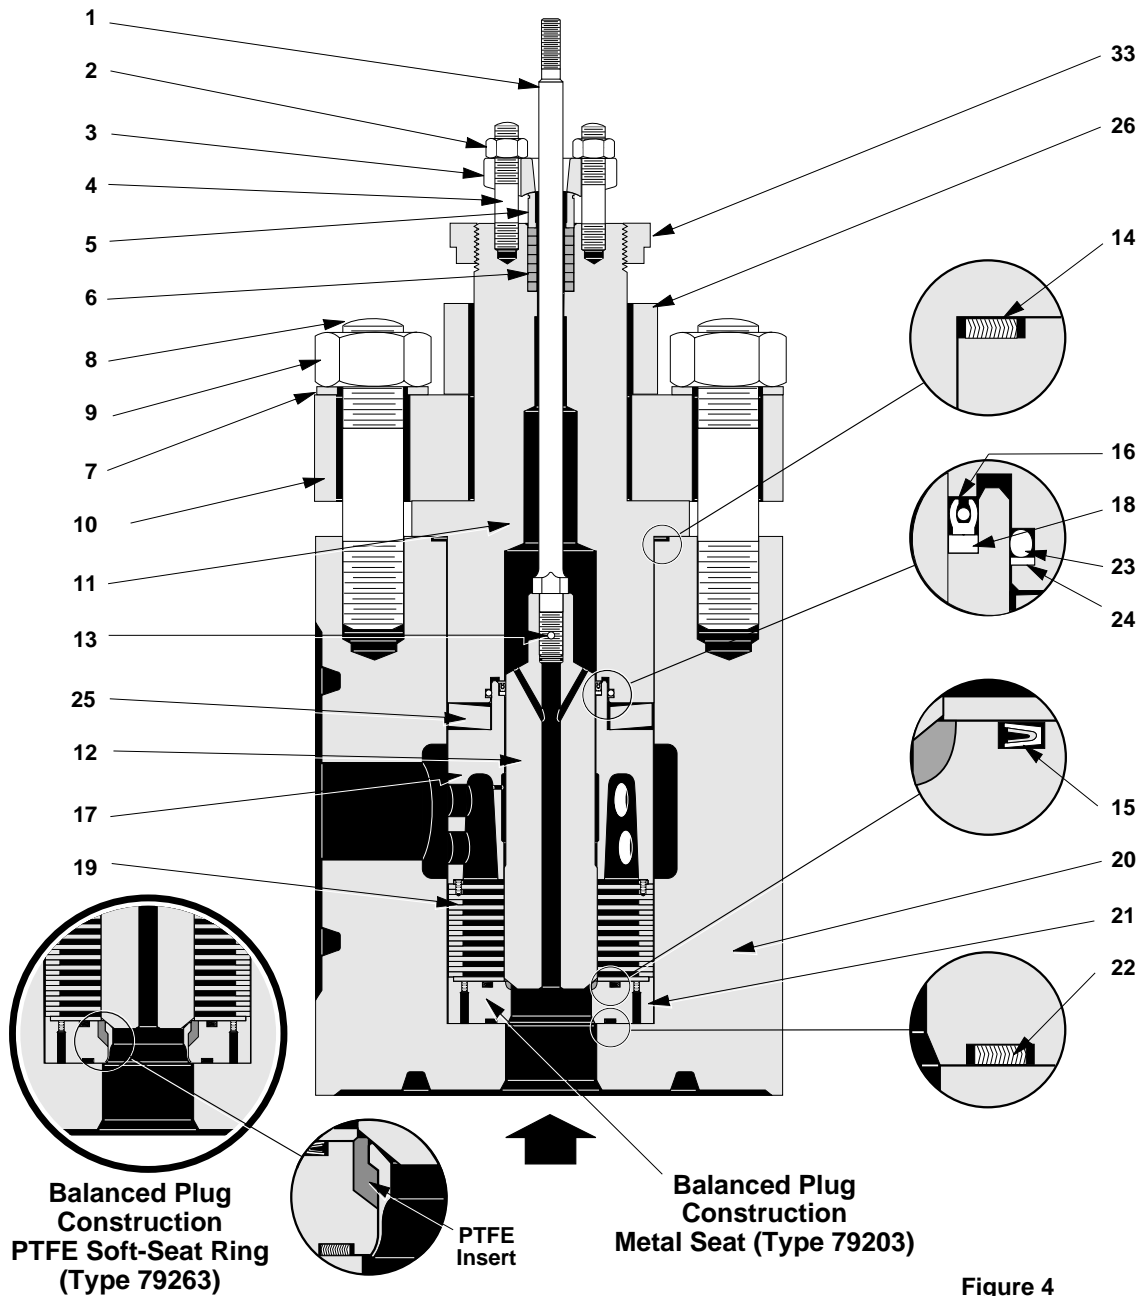

Figure 4
9.2 Valve Sizes : 2” to 6” (Figures 4, 5 & 6)